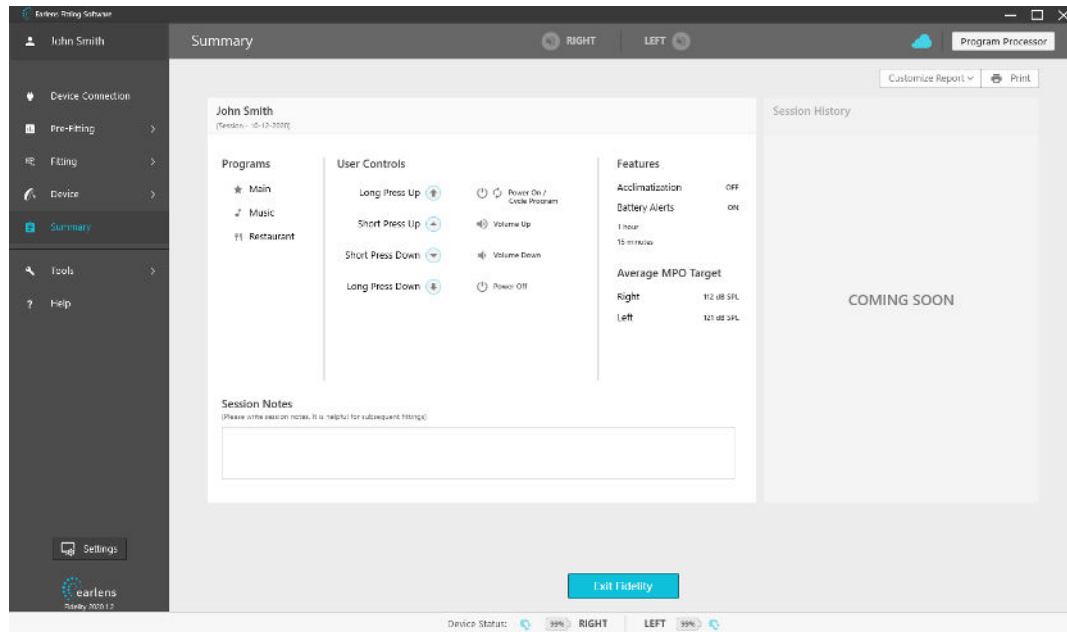

Figure 20. Summary screen
- **Summary:** View the summary of the fitting session, enter session notes, print patient instructions, and print audiologist report (Figure 20).